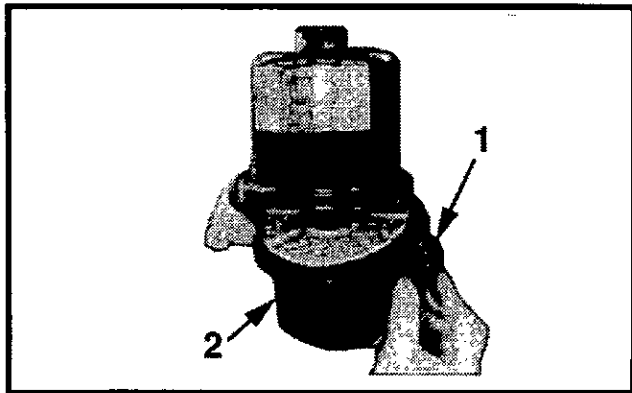

Figure 5-11 Reassemble the Air Cleaner
8. Carefully reinstall the clean/replacement element into the clean oil bath cup and secure to the upper air clean body with the two spring clips, refer Figure 5-11. Ensure clips are correctly located and are not cracked or damaged. Replace if required.